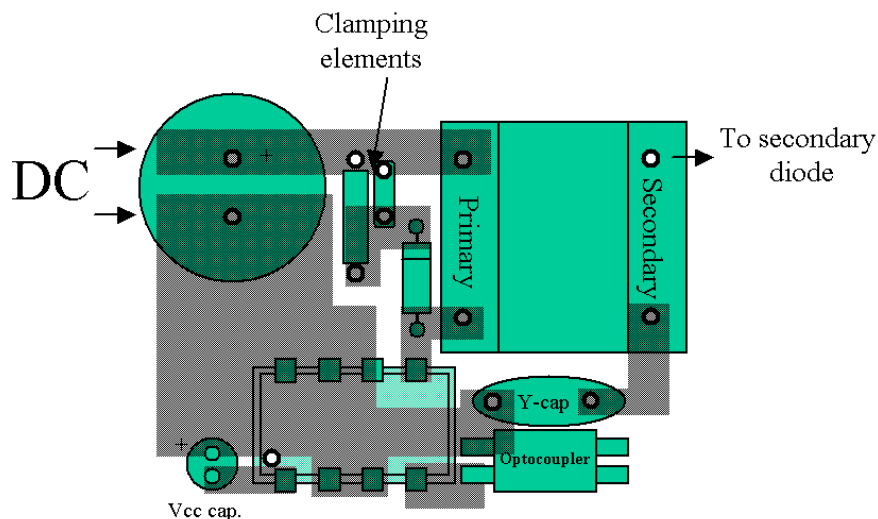

Figure 27. A Possible PCB Arrangement to Reduce the Thermal Resistance Junction-to-Ambient
1.0 W for an ambient of 50°C. The losses inherent to the MOSFET R_{DSon} can be evaluated using the following formula: $P_{mos} = \frac{1}{3} \cdot I_p^2 \cdot d \cdot R_{DSon}$ (eq. 13), where I_p is the worse case peak current (at the lowest line input), d is the converter operating duty-cycle and R_{DSon} , the MOSFET resistance for $T_J = 100^\circ\text{C}$. This formula is only valid for Discontinuous Conduction Mode (DCM) operation where the turn-on losses are null (the primary current is zero when you restart the MOSFET). Figure 27 gives a possible layout to help drop the thermal resistance. When measured on a 35 μm (1 oz) copper thickness PCB, we obtained a thermal resistance of 75°C/W.